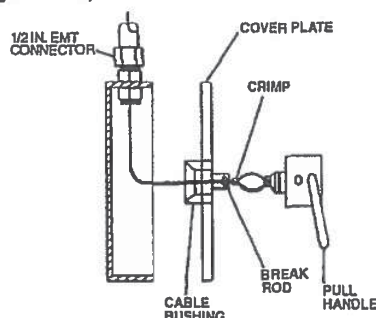

Figure 4-16. Model RPS-M Remote Pull Station Installation.
- After mounting the pull station box and conduit, feed the stainless steel cable from the control head, through the conduit, and into the pull station box. Insert the bushing into the pull station's cover plate and secure it with the locknut provided. Feed the cable through the bushing and into the pull handle ensuring that the cable fully crosses the set screw hole. Fasten the cable to the pull handle with the set screw (see Figure 4-16).